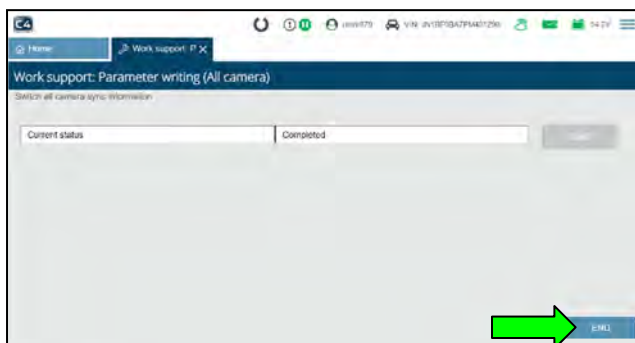

Figure 16
HINT: It may take up to 5 minutes for the screen in Figure 16 on page 9 to display once the green Play icon is selected.
- If the **Parameter writing** is successful (Figure 16), select **END** and then continue to step 13.